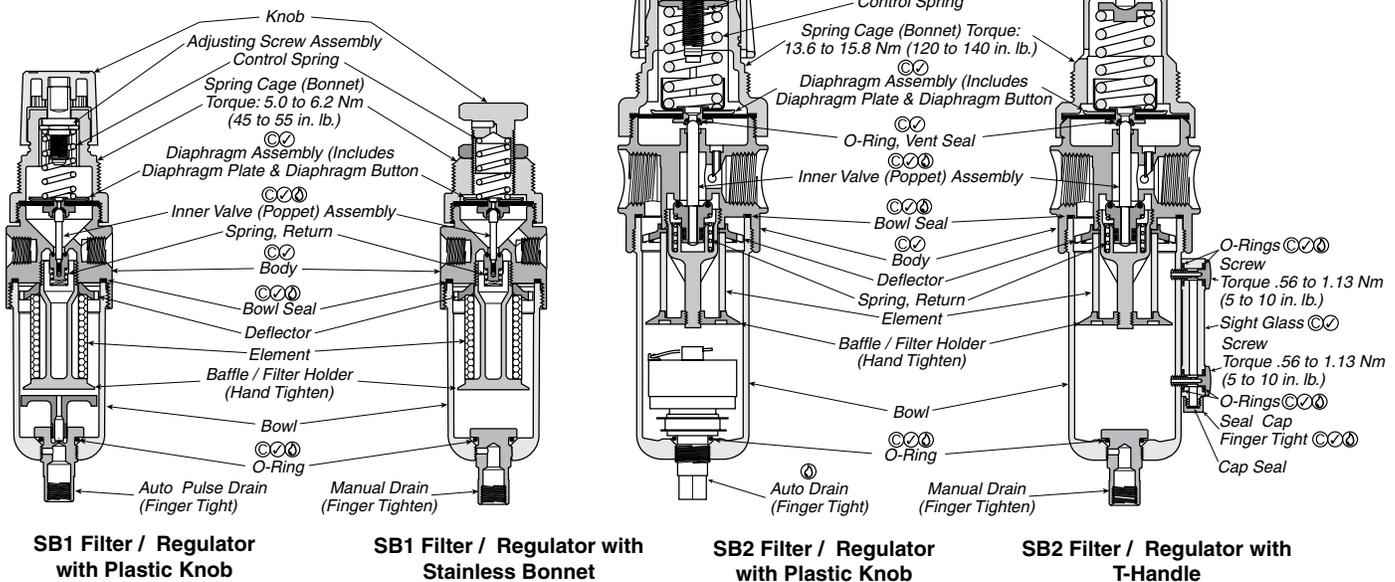

Figure 1
9. Install diaphragm assembly into body assembly. Assemble bonnet assembly onto body and tighten per Figure 1.
Servicing Filter Element - (Refer to Figure 1)
Servicing Regulator - (Refer to Figure 1)